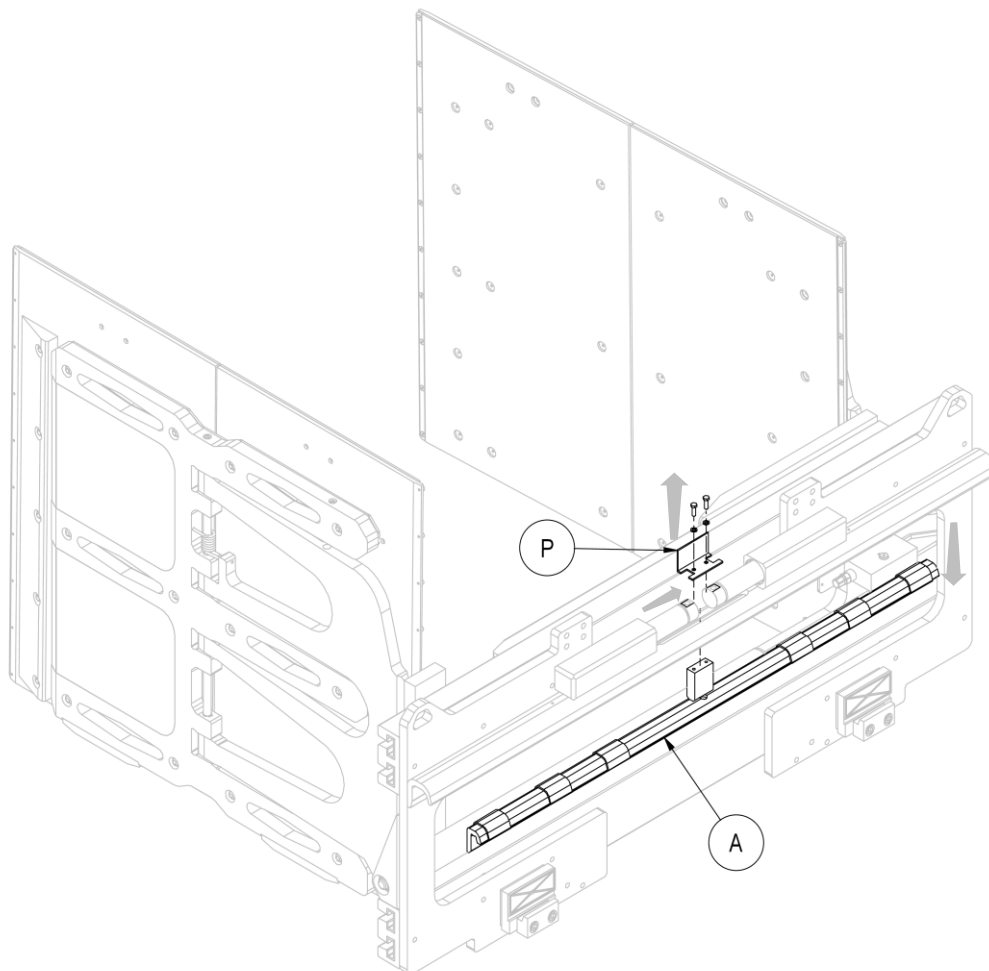
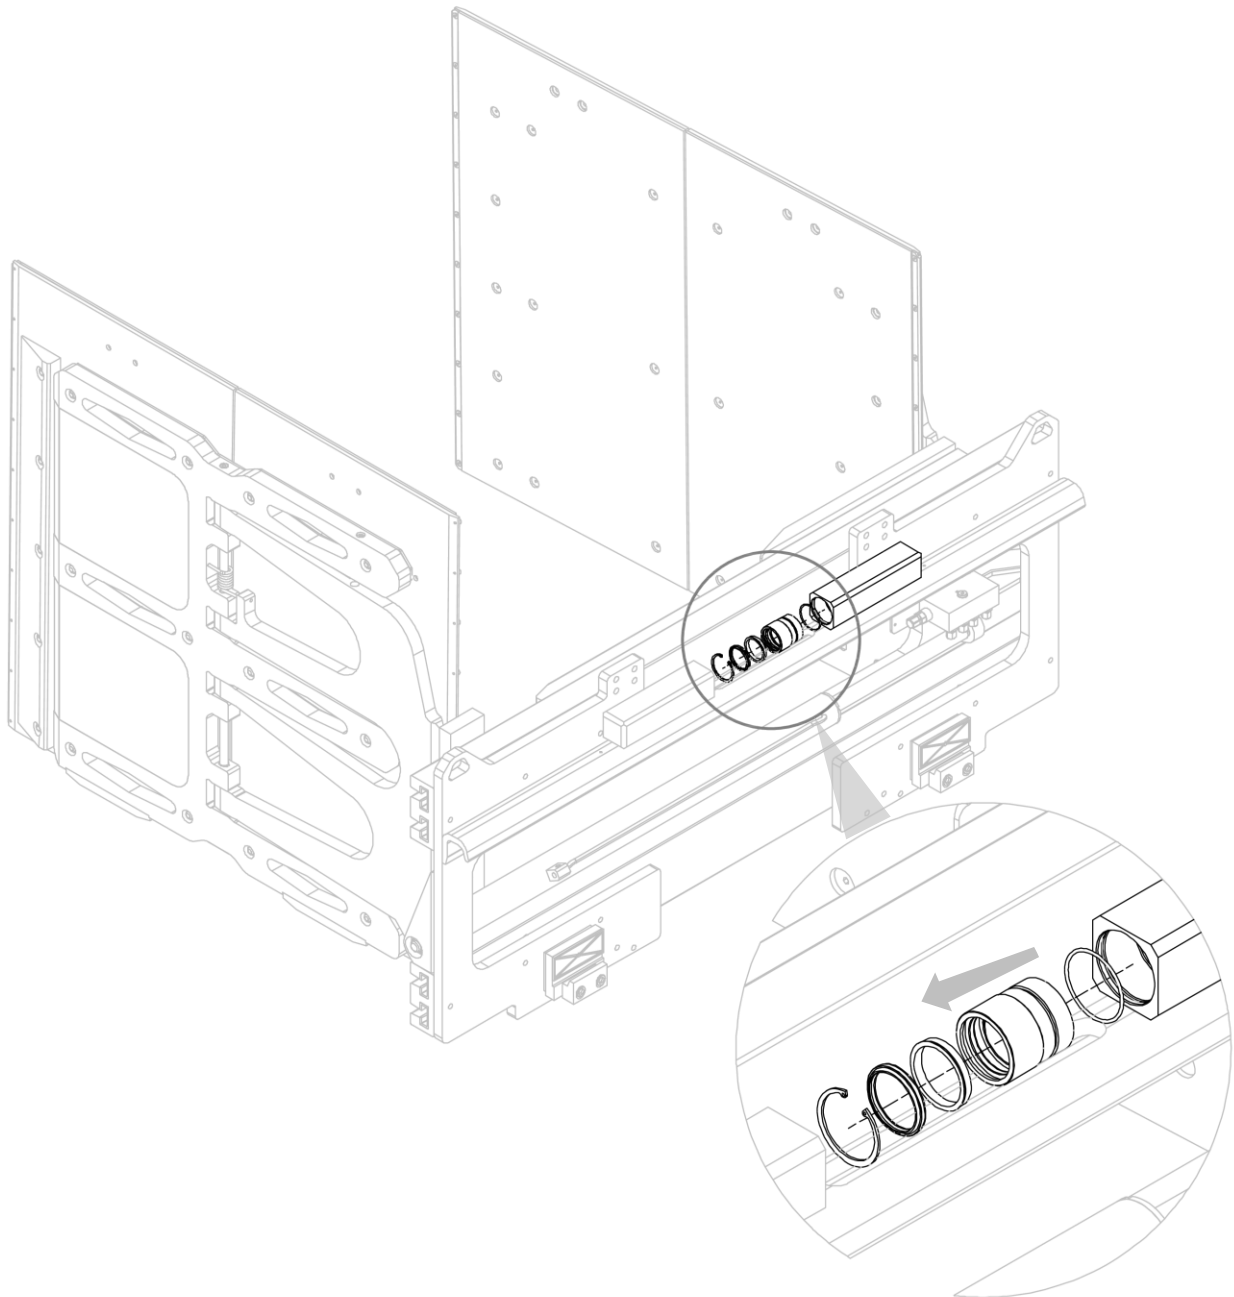

Figure 94
Figure 95
3. Remove the dual coupling (A) after removing the protection bracket (P) with its screws.
7. Use *Figure 94* and *Figure 95* as guides.